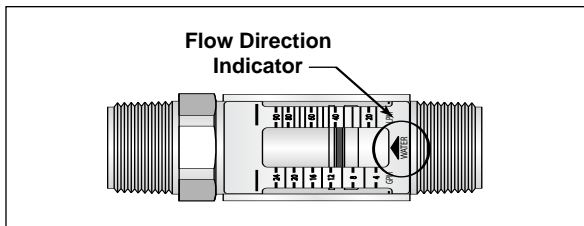

Figure 3. Flow Direction Indicator
These meters only accept flow in one direction. Make sure to align the Flow Arrow, located on the bottom of the meter's flow scale, in the same direction as the anticipated line flow. (See Figure 3).
3. Thread the flow meter and coupling onto the inlet pipe and hand tighten. Make sure the flow direction arrow on the flow meter corresponds with the system flow direction (see Figure 3 on page 3).
6. Make sure the flow direction arrow on the flow meter corresponds with the system flow direction (see Figure 3 on page 3). Lubricate the union O-ring and connect the union together.
7. Place the flow meter in between the two installed brass fittings. Make sure the flow direction arrow on the flow meter corresponds with the system flow direction (see Figure 3 on page 3). Thread the two brass hex couplers into the flow meter body.
8. Place the flow meter between the two installed fittings. Make sure the flow direction arrow on the flow meter corresponds with the system flow direction (see Figure 3 on page 3). Thread the two hex couplers onto the flow meter body.
2. Thread the inlet of the flow meter onto the appropriate pipe connection. Make sure the flow direction arrow on the flow meter corresponds with the system flow direction (see Figure 3 on page 3).